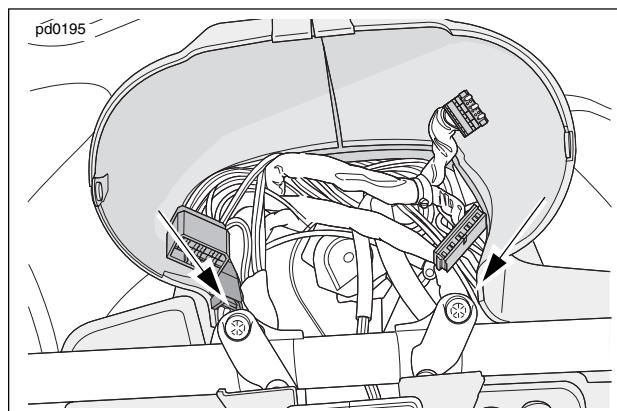

Figure 1-15. FLTR Models-Front Handlebar Clamp Screws
3. See Figure 1-15. Loosen two front handlebar upper clamps (Instrument bezel has been removed in drawing for clarity).